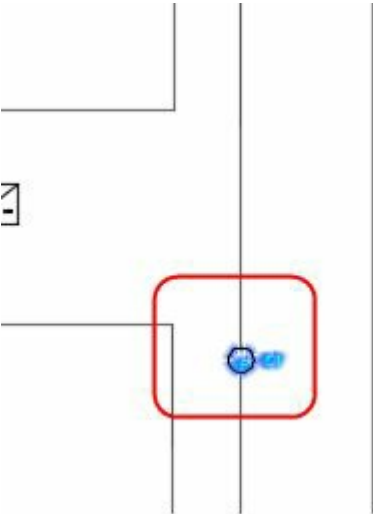

Figure-21. Motor placed
- Click on the first rung of the ladder and place the component as shown in Figure-21.